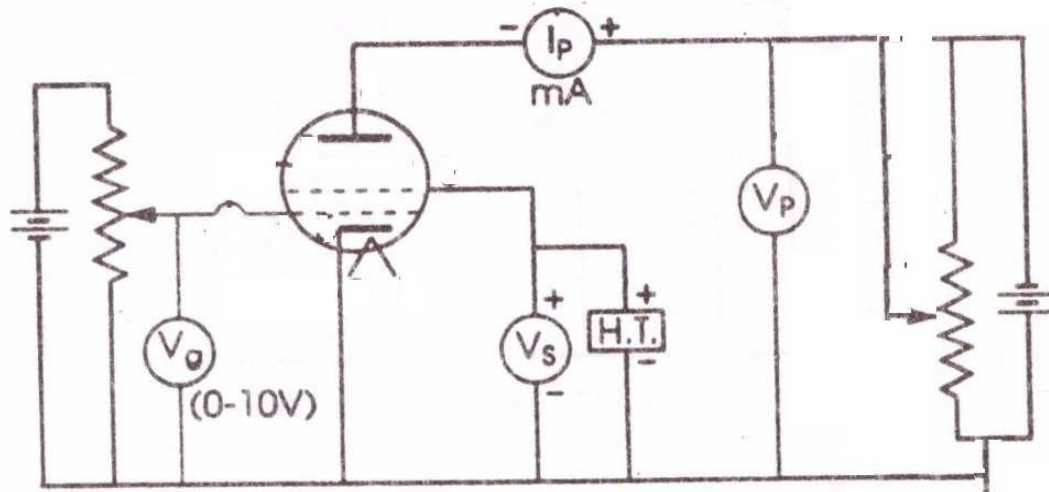

Figure 2
The apparatus in the experiment is a simple electric circuit as shown in figure 2. The tetrode valve has four electrodes. All the electrodes are given proper voltage. For the measurement of current and voltage the DC Voltmeter (0-250V), Voltmeter (0-150V) & DC ammeter (0-10 mA) are connected.
13. Make electrical connection as shown in figure 2.